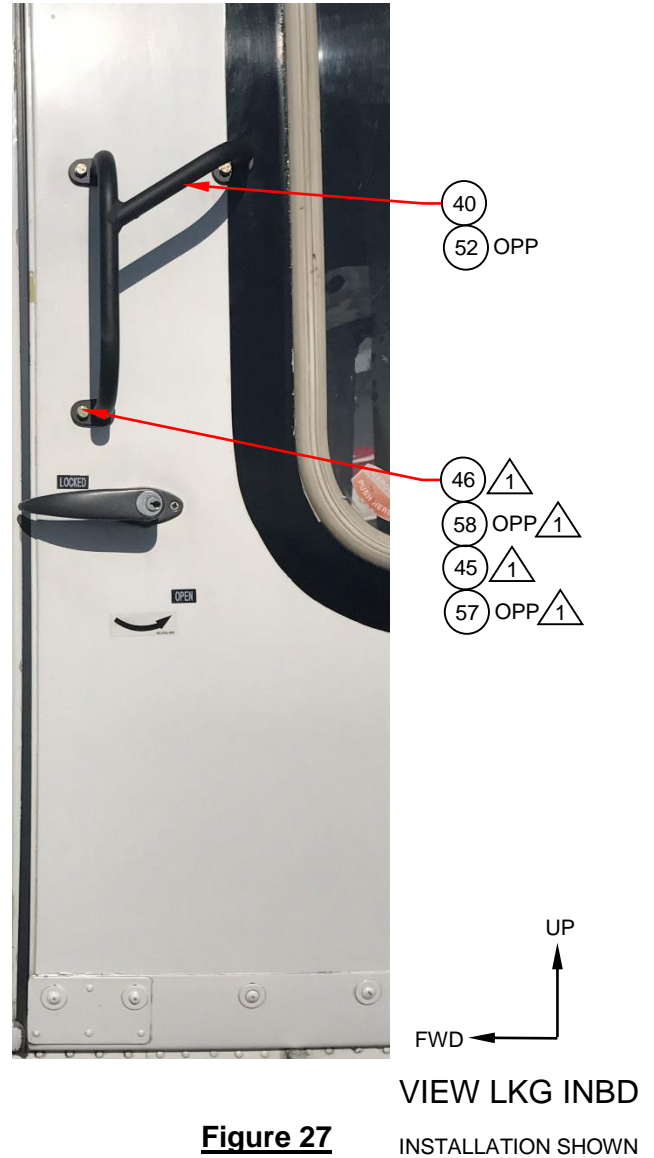

Figure 27
6. Once the potting compound has cured install the Handle, Assy, LHS, AFT (Items 40 & 52 OPP), using the supplied hardware as shown. Reference Figure 27.